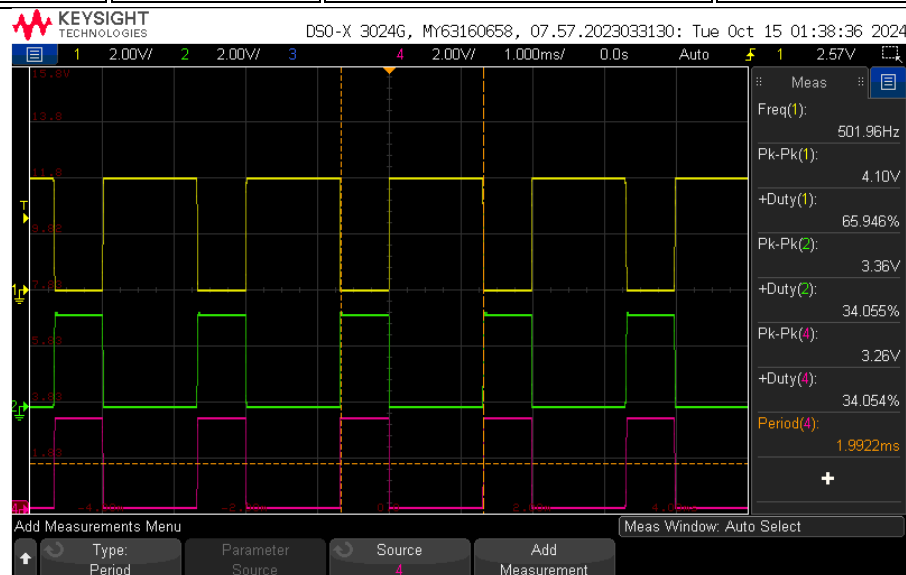

Figure 6 555 clock and triggers of Hex inverters
- The 555 timer output drives one input of each hex inverter, and the corresponding inverter outputs are used as trigger signals. Since the inverters operate from a 3.3 V supply, each trigger output is expected to have a 3.3 V peak-to-peak amplitude and to be inverted relative to the 555 output. The observed frequency, duty cycle, and amplitude of both inverter triggers closely match those of the 555 timer output, as illustrated in *Figure 6*.